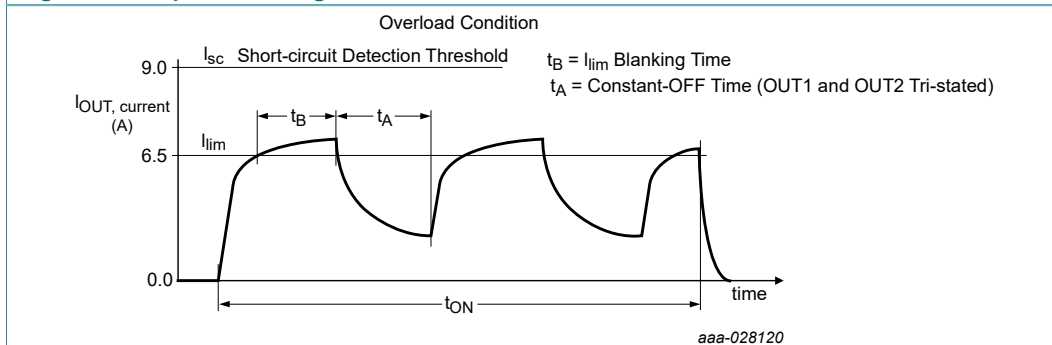

Figure 8. Current limit blanking time and constant-off time
- [9] Load currents ramping up to the current regulation threshold become limited at the  $I_{\text{LIM}}$  value (see Figure 8). The short-circuit currents possess a  $di/dt$  that ramps up to the  $I_{\text{SCH}}$  or  $I_{\text{SCL}}$  threshold during the  $I_{\text{LIM}}$  blanking time, registering as a short-circuit event detection and causing the shutdown circuitry to force the output into an immediate 3-state latch-off (see Figure 9). Operation in current limit mode may cause junction temperatures to rise. Junction temperatures above  $\sim 160 \text{ }^\circ\text{C}$  causes the output current limit threshold to "foldback", or decrease, until  $\sim 175 \text{ }^\circ\text{C}$  is reached, after which the  $T_{\text{LIM}}$  thermal latch-off occurs. Permissible operation within this foldback region is limited to non-repetitive transient events of duration not to exceed 30 seconds (see Figure 10).